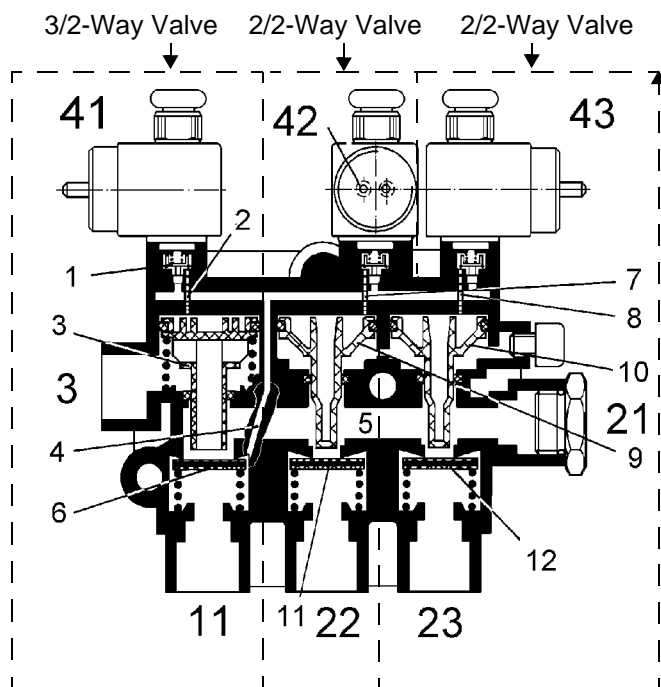

Fig. 25 Cross-Section of an ECAS Solenoid Valve with Spring-Returned Seat Valves for the Leading Axle (Individual Solenoids)
The 3/2 directional control valve, if this is a seat valve as shown in the cross-sectional drawing (↓ Fig. 25), operates as follows:
- If ECAS controls the left and right sides of the axle individually (2-point control of the axle) each individual magnet actuates one 2/2-way valve (↑ Fig. 25).